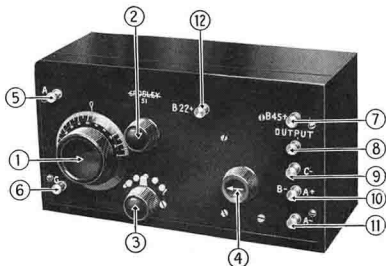

Figure 4
Lead-in Wire. This wire should be connected to the Binding Post marked "A" in the upper left hand corner of your set, shown as No. 5 in Figure 4. Scrape the wire clean and bright at the end and screw down the Binding Post tightly.
Ground Lead Wire. This wire is connected to the set at the Binding Post marked "G" in the lower left hand corner of the set shown as No. 6 in Figure 4. Scrape and clean as mentioned before.
All proper wire connections having been made, look at the Rheostat Knob No. 4 in Figure 4. Turn the Rheostat as far to the left as it will go. This operation turns off the current completely. Next take the two tubes and place them gently in their sockets in the set. **NOW BE VERY CAREFUL**—To make sure you have made no mistakes in connecting up the set, turn the Rheostat very slowly to the right for about a quarter of an inch. The current is now passing thru the set. Now gradually turn up the Rheostat. If no mistakes have been made the tubes will light up slowly.
1. To start, place the tap switch marked 3 in Figure 4 on the fourth tap from the left.
2. Now turn the Rheostat to the right until you hear a slight hissing noise. Turn the condenser dial marked 1 in Figure 4 very slowly from 0 to 100 and with the Varind Knob marked 2 pulled forward about three-quarters of an inch away from the Panel.
6. The tap switch marked 3 in Figure 4 has 5 taps on it. You should move the switch to different taps from time to time. You will probably locate broadcasting stations on all taps. Wave lengths are increased as you move from left to right.